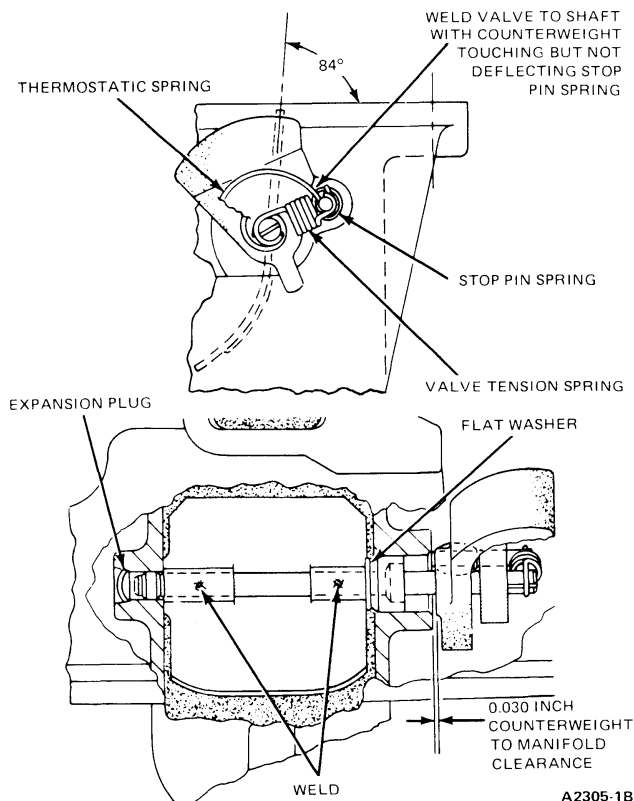

FIG. 17 Valve Plate Position and Counterweight Clearance
5. Position the exhaust control valve at an 84 degree angle with the top surface of the manifold (Fig. 17).